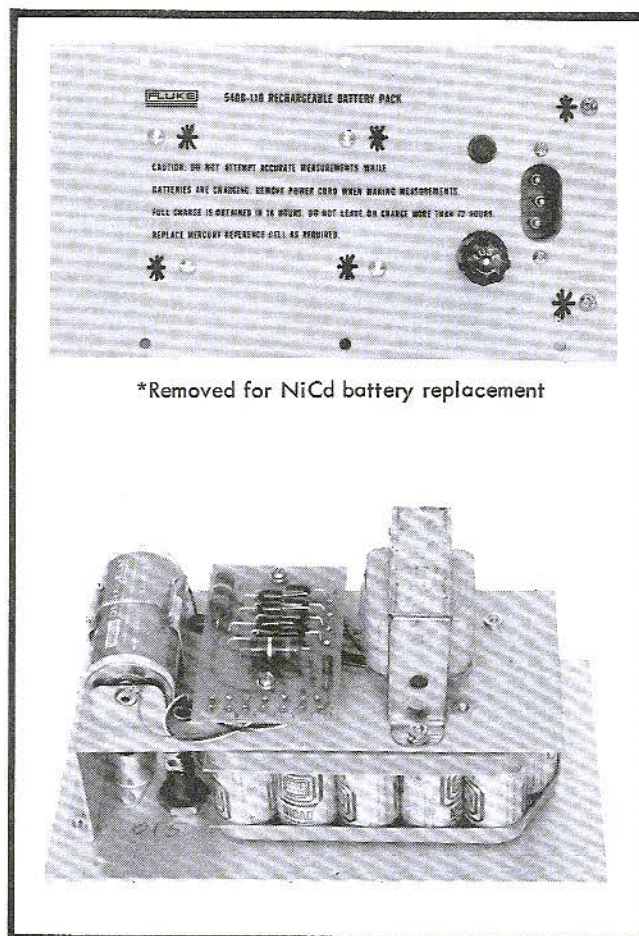

Figure 3-4. 540B RECHARGEABLE BATTERY PACK
- a. Remove the six screws indicated on the front panel of the battery pack in Figure 3-4.